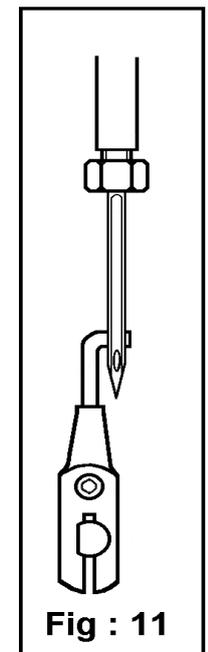

Fig : 11
4. As the looper passes behind the needle the point of the looper should be visible past the right edge of the needle (0,8 mm max .) just before the bottom edge of the looper hook is seen in the eye of the needle, see Fig 11.